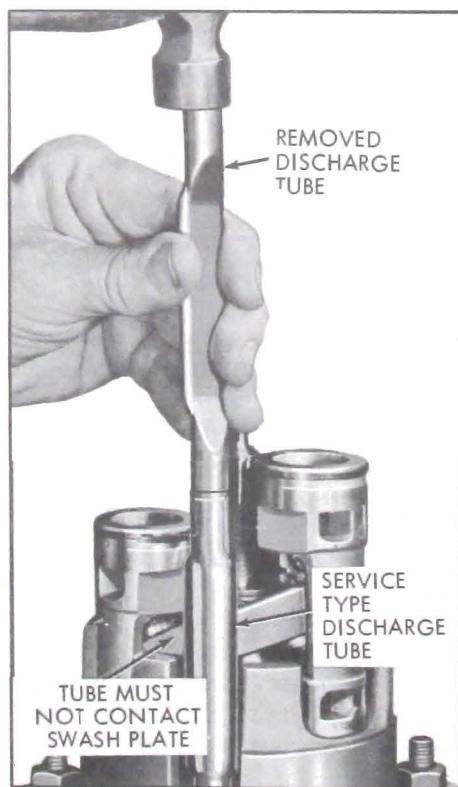

Figure 11-83—Installing Service Type Discharge Tube
4. Assemble one end of service discharge crossover tube into hole in front cylinder. See Figure 11-83.